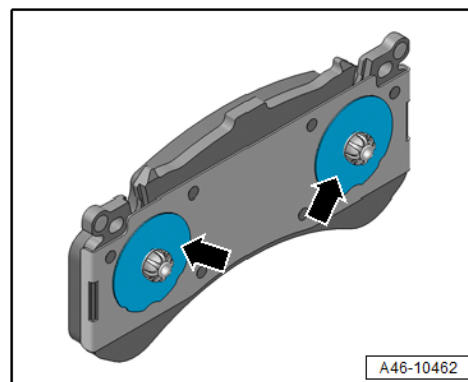

Figure 1. Shims on back of front brake pads.
- Some vehicles may have two shims glued to the back of the front brake pads (Figure 1). **Do not** transfer these shims to the new pads.